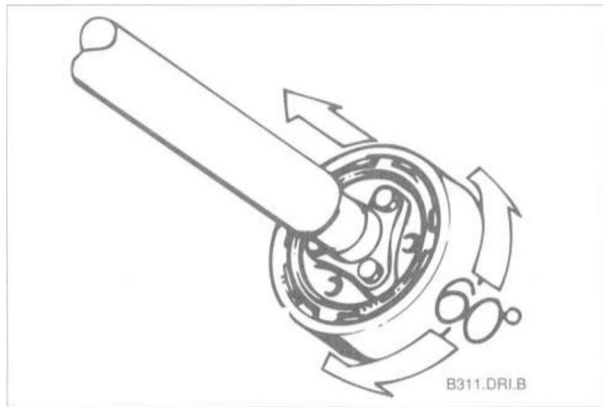

Fig. 6. To remove vibration damper, turn damper about 60° and pull off flange.
- On models with a vibration damper, the damper can be removed from the transmission flange by turning it about 60° and pulling it over the flange. See Fig. 6.